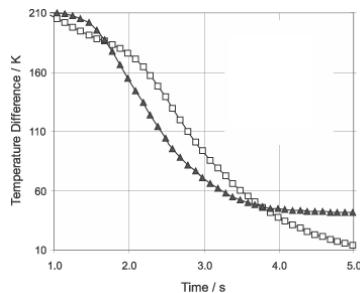
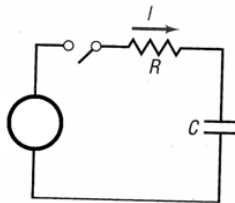

Figure 1: Examples of Temperature Drop Profiles of Cooling Bodies
Figure 4: Possible Electrical Discharging from a Capacitor (when switch is connected!)
**Introduction:** With natural convection acting slowly to change a body's temperatures (due to the absence of a fan or a pump like in forced convection), the process tends to take a long time to occur and is usually therefore a case of un-steady heat transfer. In such scenarios, time will play an important role in dictating the levels of temperature and heat transfer. With the gradual reduction in temperature differences between the hot and cold sources, the amount of heat transferred will continue to decrease with time until it stops completely when  $T_{HOT} = T_{COLD}$ . If a hot body with little differences in internal temperature (possibly due to high internal conduction) was immersed in a cold fluid, the rates of natural convection at fluid-solid interface will equal the resulting change in internal energy, figure 1.
**Using the equation:** If  $T(t)$  was the un-known, it is possible to find it out by knowing  $T_i$  and  $T_0$  and the value of the time constant, it is also possible to estimate the time needed to achieve a certain temperature change using this formula. Figure 4 shows an analogy to this discharging effect of an electrical capacitor over time leading to a similar charge reduction profile similar to the temperature one shown in figure 1 earlier. This analogy is the reason for the lumped capacitance model name!